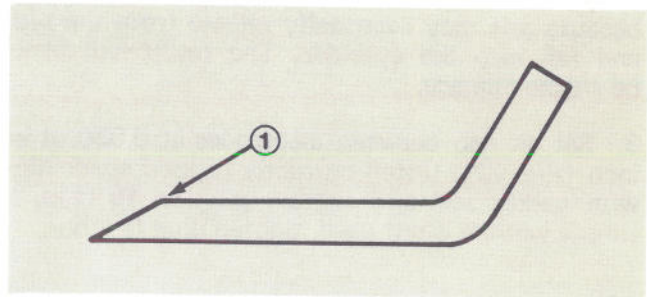

Figure 37
5. Using a file, sharpen cutting edge at both ends of the blade (Fig. 37).
IMPORTANT: Sharpen top side of blade and maintain original cutting angle to assure a sharp cutting edge (Fig. 37). The blade will remain balanced if same amount of material is removed from both cutting edges.